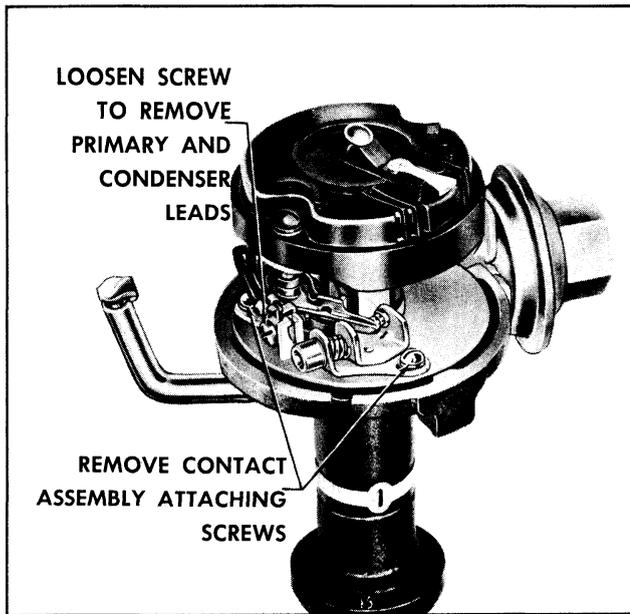

Fig. 13-39 Contact Point Assembly Removal
1. Remove the two attaching screws which hold the base of contact set assembly in place. (See Fig. 13-39)